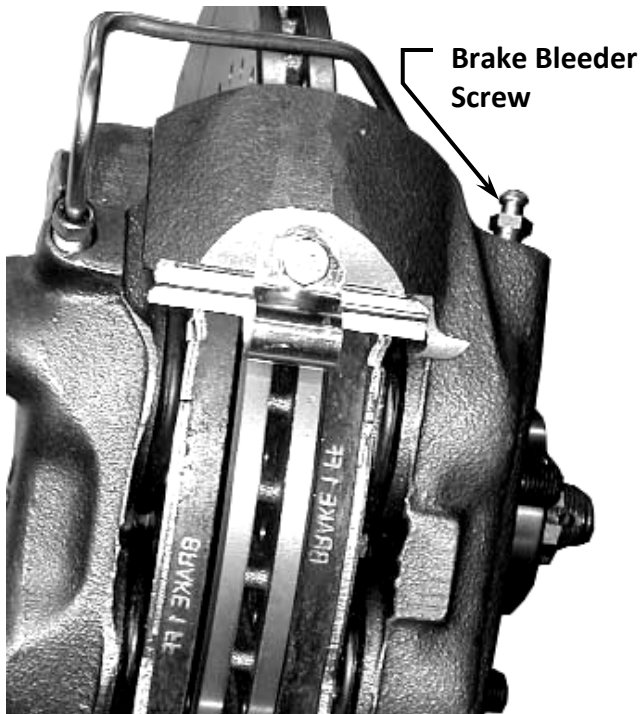

Figure 4 – Brake Bleeder Screw
9. Mount the caliper to the caliper mounting bracket. With the pads installed in the caliper, slide the caliper over the rotor and line up the mounting ears of the caliper with the holes in the caliper mounting bracket. Using the provided 7/16"-14 x 1 1/2" Grade 8 Hex Head Bolts and 7/16" Lock washers, tighten and torque the bolts to 80 ft/lbs. **NOTE:** When installing the calipers, make sure the brake bleeders are pointing upward. See Figure 4 below for reference.